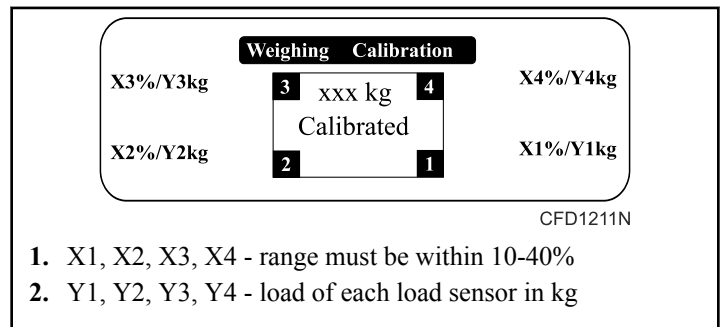

Figure 18
12. Check and, if necessary, adjust the height of the load sensor feet so that an even load distribution among all the load sensors is ensured. Refer to *Figure 18*.